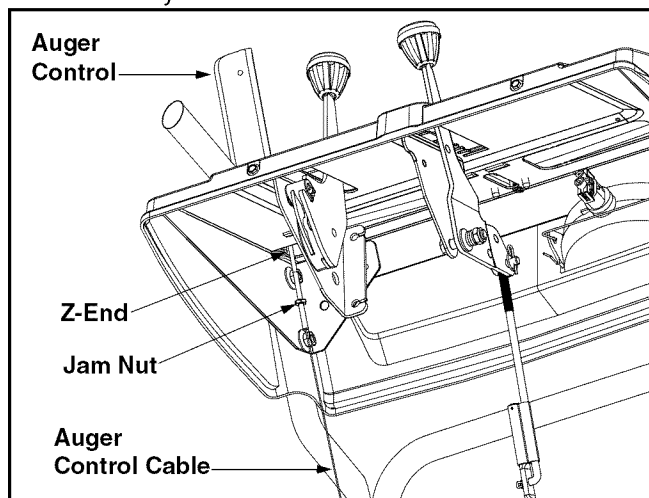

Figure 7
- Allow the auger to remain engaged for approximately ten (10) seconds before releasing the auger control. Repeat this several times.
- Retighten the hex jam nut. See Figure 7.
- Loosen the jam nut on the drive cable. Adjust the cable as necessary. Refer to Figure 7.